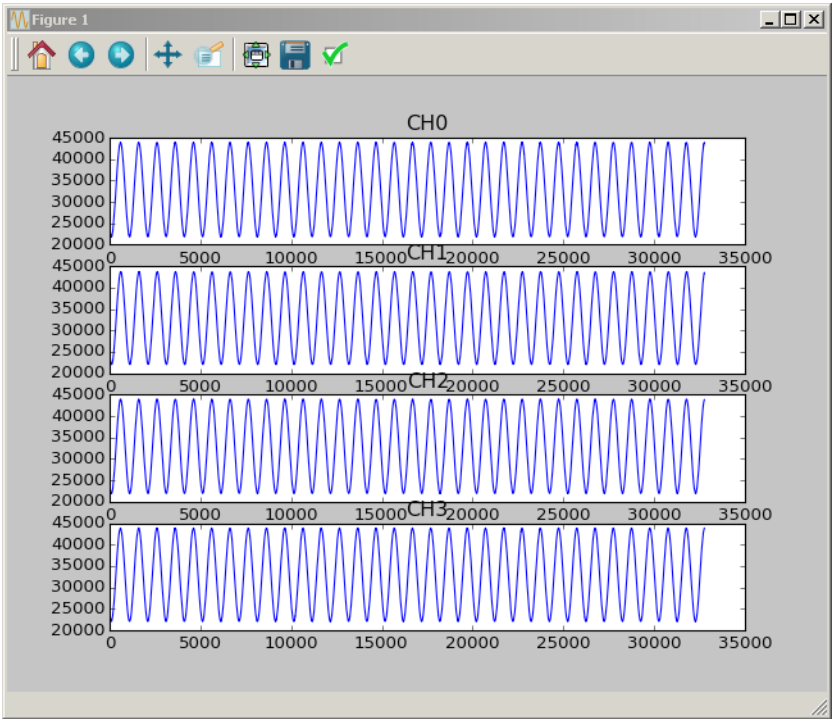

Figure 3. Example Time Domain Plot
- 9) Run the appropriate test script (Ltc2123Dc2226DualClockingSolution.m for Matlab, ltc2123\_dc2226\_dual\_clocking\_solution.py for Python). Plots similar to Figures 3 and 4 should appear. At this point, data is stored in program variables for further manipulation and testing.